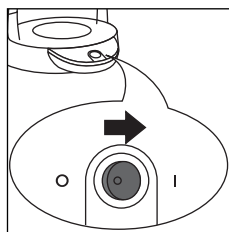

fig. 6
- Press the switch to the "I" position: the switch will light up (fig. 6).